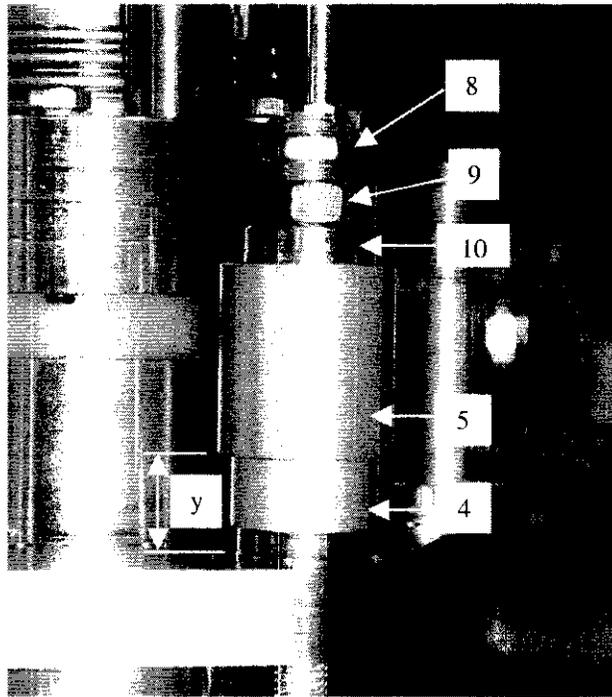
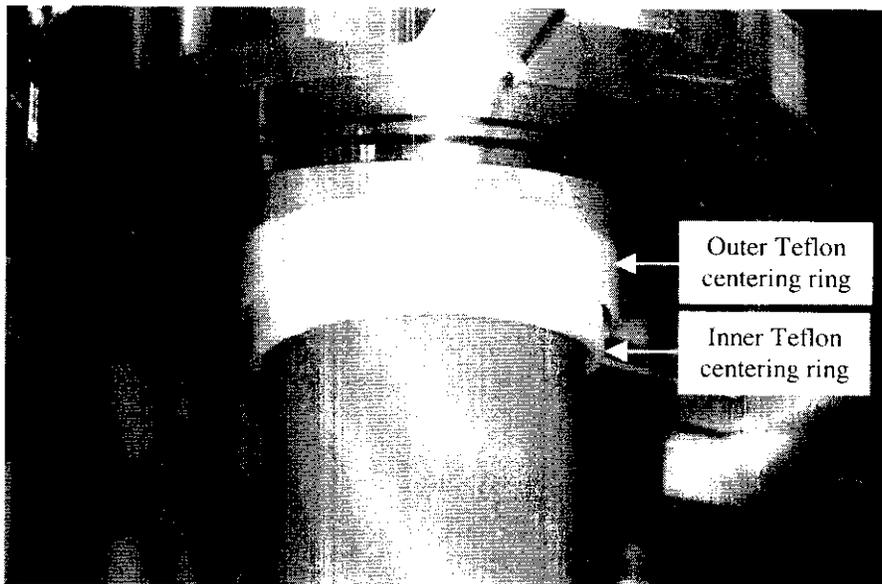

Figure 1.27a An installed Belleville Washer Assembly.
Figure 1.28.1.2 The installed Teflon centering rings.
- 1.27** Install Belleville Washer Assemblies on each tensioning stud per Figures 1.27a and 1.27b. A spherical washer must be placed below the Belleville washer holder on each stud. In the figures: Items 11 (10 each) are Belleville Washers, arranged as shown; Items 6 (2 each) are flat washers; Items 4 and 5 are the Belleville Washer Holder; Item 10 are Spherical Washers for above and below the washer holder; Item 9 is a loading nut; and Item 8 is a jam nut.
- 1.28.1.2 Center the lower end of the lead in the chimney using two Teflon centering rings. The inner Teflon centering ring goes between the power lead and the lower insulator. The outer Teflon centering ring goes between the lower insulator and the chimney. A small rubber mallet may be used to help install the Teflon centering rings. The installed Teflon centering rings are shown in Figure 1.28.1.2.
- 1.28.1.3 Tighten the 6 loading nuts finger-tight. With adjustable parallels, measure and record the gap "y" indicated in Figure 1.27a between Item 5 and the current lead top flange at the 6 locations specified in Figure 1.28.1.5. Units are mm.
1.28.1.6 Record the final measured gaps 'y' in Figure 1.27a. Units are mm.
- 1.28.2.3** Tighten the 6 loading nuts finger-tight. With adjustable parallels, measure and record the gap "y" indicated in Figure 1.27a between Item 5 and the current lead top flange at the 6 locations specified in Figure 1.28.1.5. Units are mm.
- 1.28.2.6** Record the final measured gaps 'y' in Figure 1.27a. Units are mm.